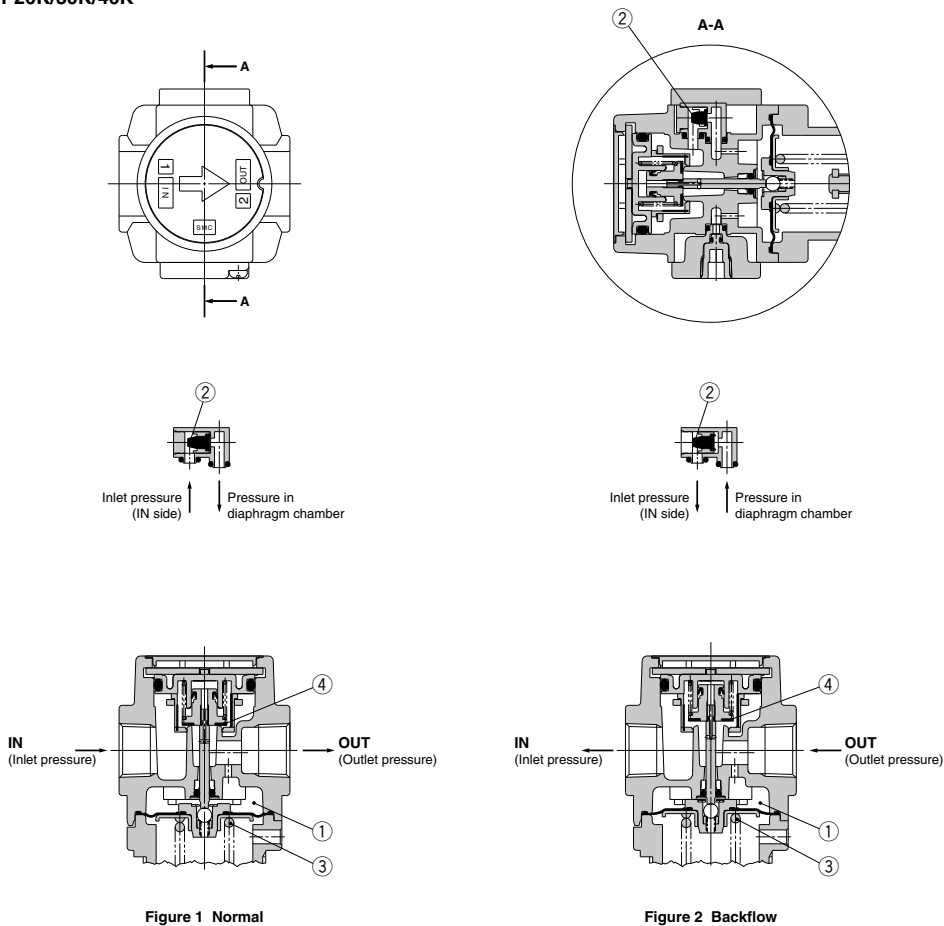

Figure 1 Normal
When the inlet pressure is higher than the set pressure, the check valve ② closes and operates as a normal regulator (Figure 1). When the inlet pressure is shut off and released, the check valve ② opens and the pressure in the diaphragm chamber ① is released to the inlet side (Figure 2). This lowers the pressure in the diaphragm chamber ① and the force generated by the pressure regulator spring ③ pushes down the diaphragm. Valve ④ opens through the stem, and the outlet pressure is released to the inlet side (Figure 2).